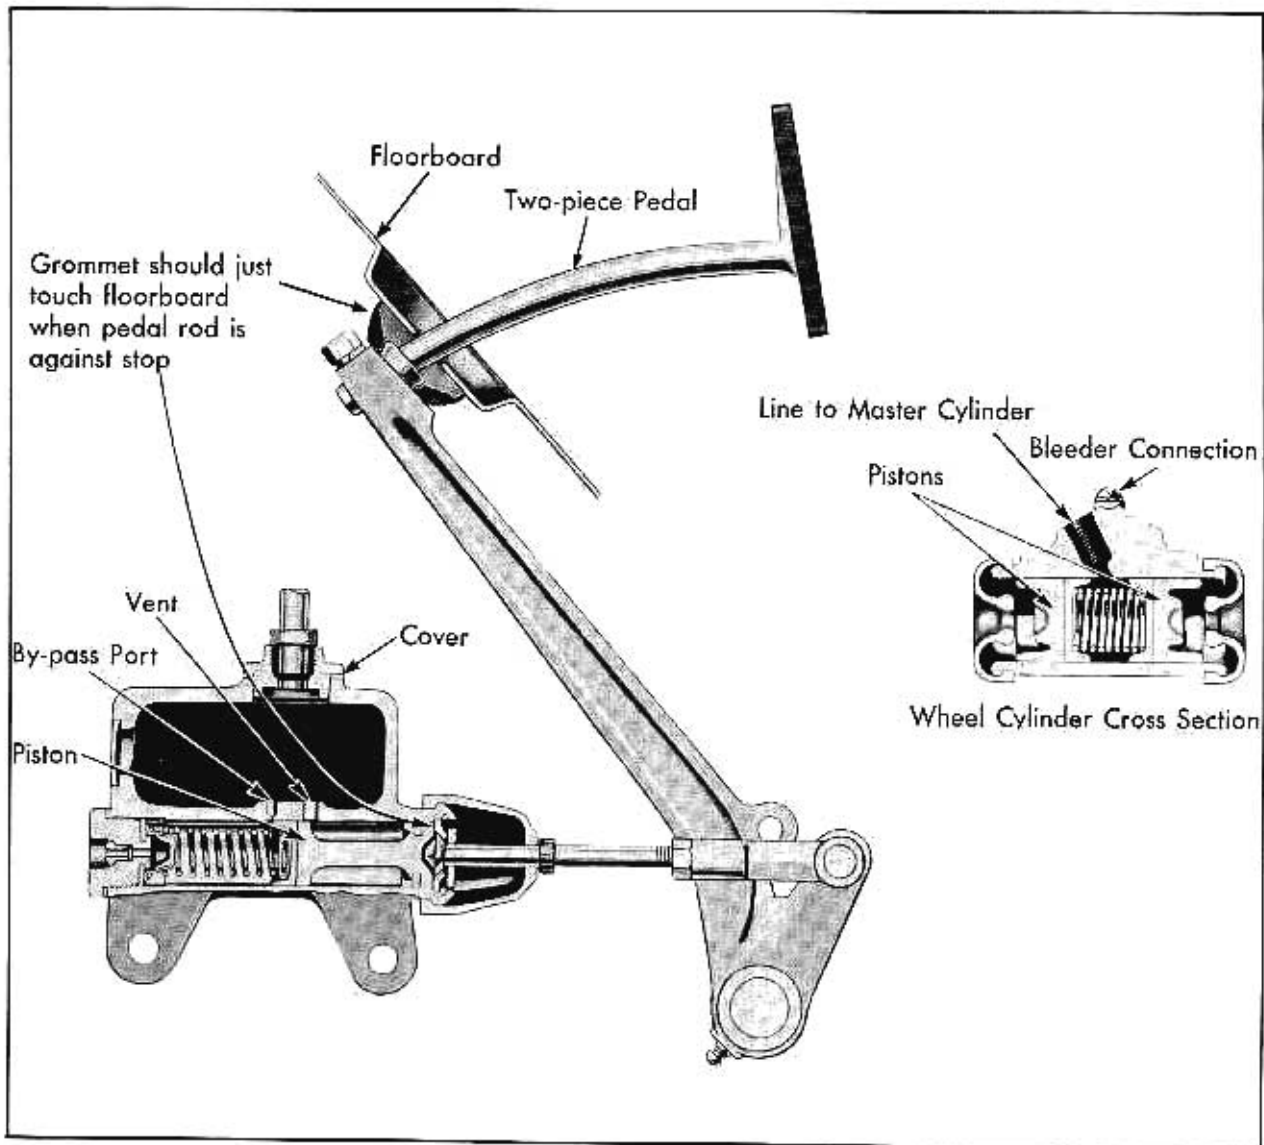

Fig. 9-5 Brake Master Cylinder and Pedal
3. Loosen lock nut on link between master cylinder and clevis on brake operating arm. Fig. 9-5.